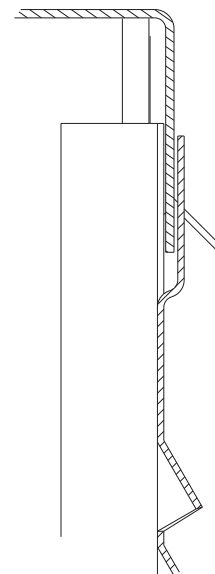

Fig. 5 — Side Panels Installed on Top of Panel
6. Using screws provided with kit, install end panels. Engage top notch in each panel to top cover flange as shown in Fig. 5. Drive screws through panel and into basepan and plastic grommets in post.
7. Install side panels engaging notch in top of panel as shown in Fig. 5. Install screws through panel into basepan and grommets previously installed.